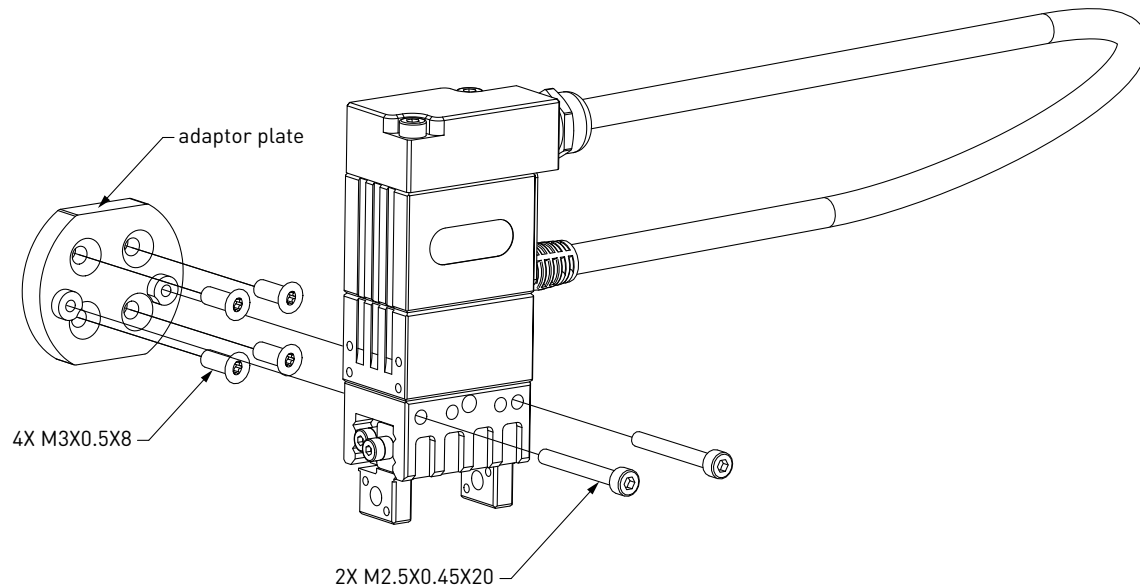

Figure 3: Mounting the MEGP 25 gripper to the flange of the Meca500
The MEGP 25 electric gripper is designed and supplied with an assembly kit for only one type of installation (Figs. 3 and 4). If you want to mount the gripper on the flange of the Meca500 in a different way, you need to design and machine your own adaptor plate. Note, however, that if you use a different adaptor plate or if you do not install your gripper in exactly the same manner as shown in Figs. 3 and 4, it is quite possible that the gripper cable will be too short. Therefore, an installation other than the one shown here may limit the range of motion of joint 6 and may result in damage to the gripper and/or the robot.
To install the gripper, switch off the robot, refer to Figs. 3 and 4, and follow these steps:
4. Attach the gripper exactly as shown in Figs. 3 and 4c using the two M2.5X0.45X20 socket head screws provided.